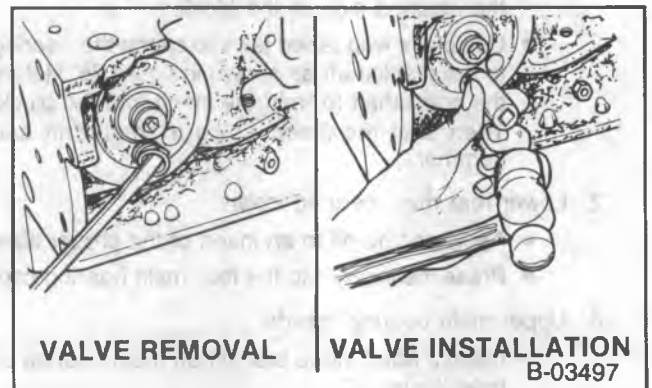

Figure 39 — Replacing The Oil Filter Bypass Valve
↔ Remove or Disconnect (Figure 39)
2. Oil filter relief valve. Pry it from the block with a screwdriver (figure 39).
↔ Install or Connect (Figure 39)
1. Oil pressure relief valve. Tap into place, using a 9/16-inch thin wall deep socket as a driver (figure 39).